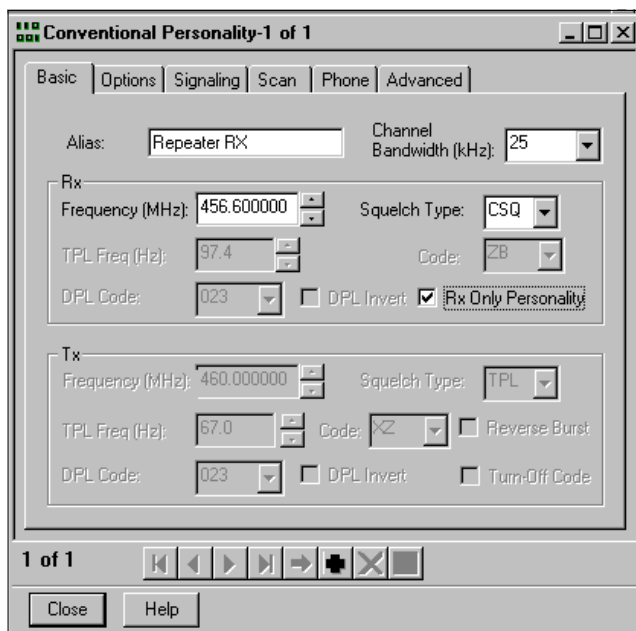

Figure 9-3. Conventional Personality, Basic, Receive Radio
16. Check the “Rx Only Personality” box. Your screen should appear similar to Figure 9-3.